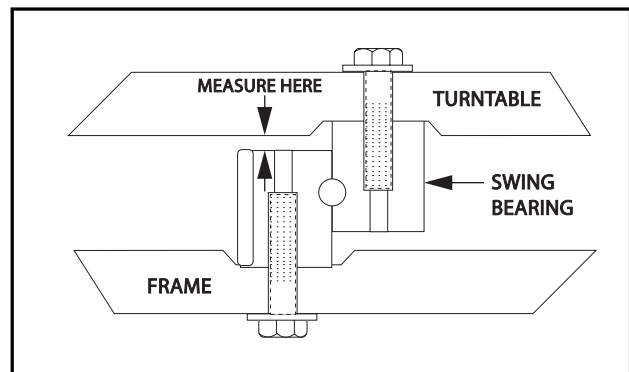
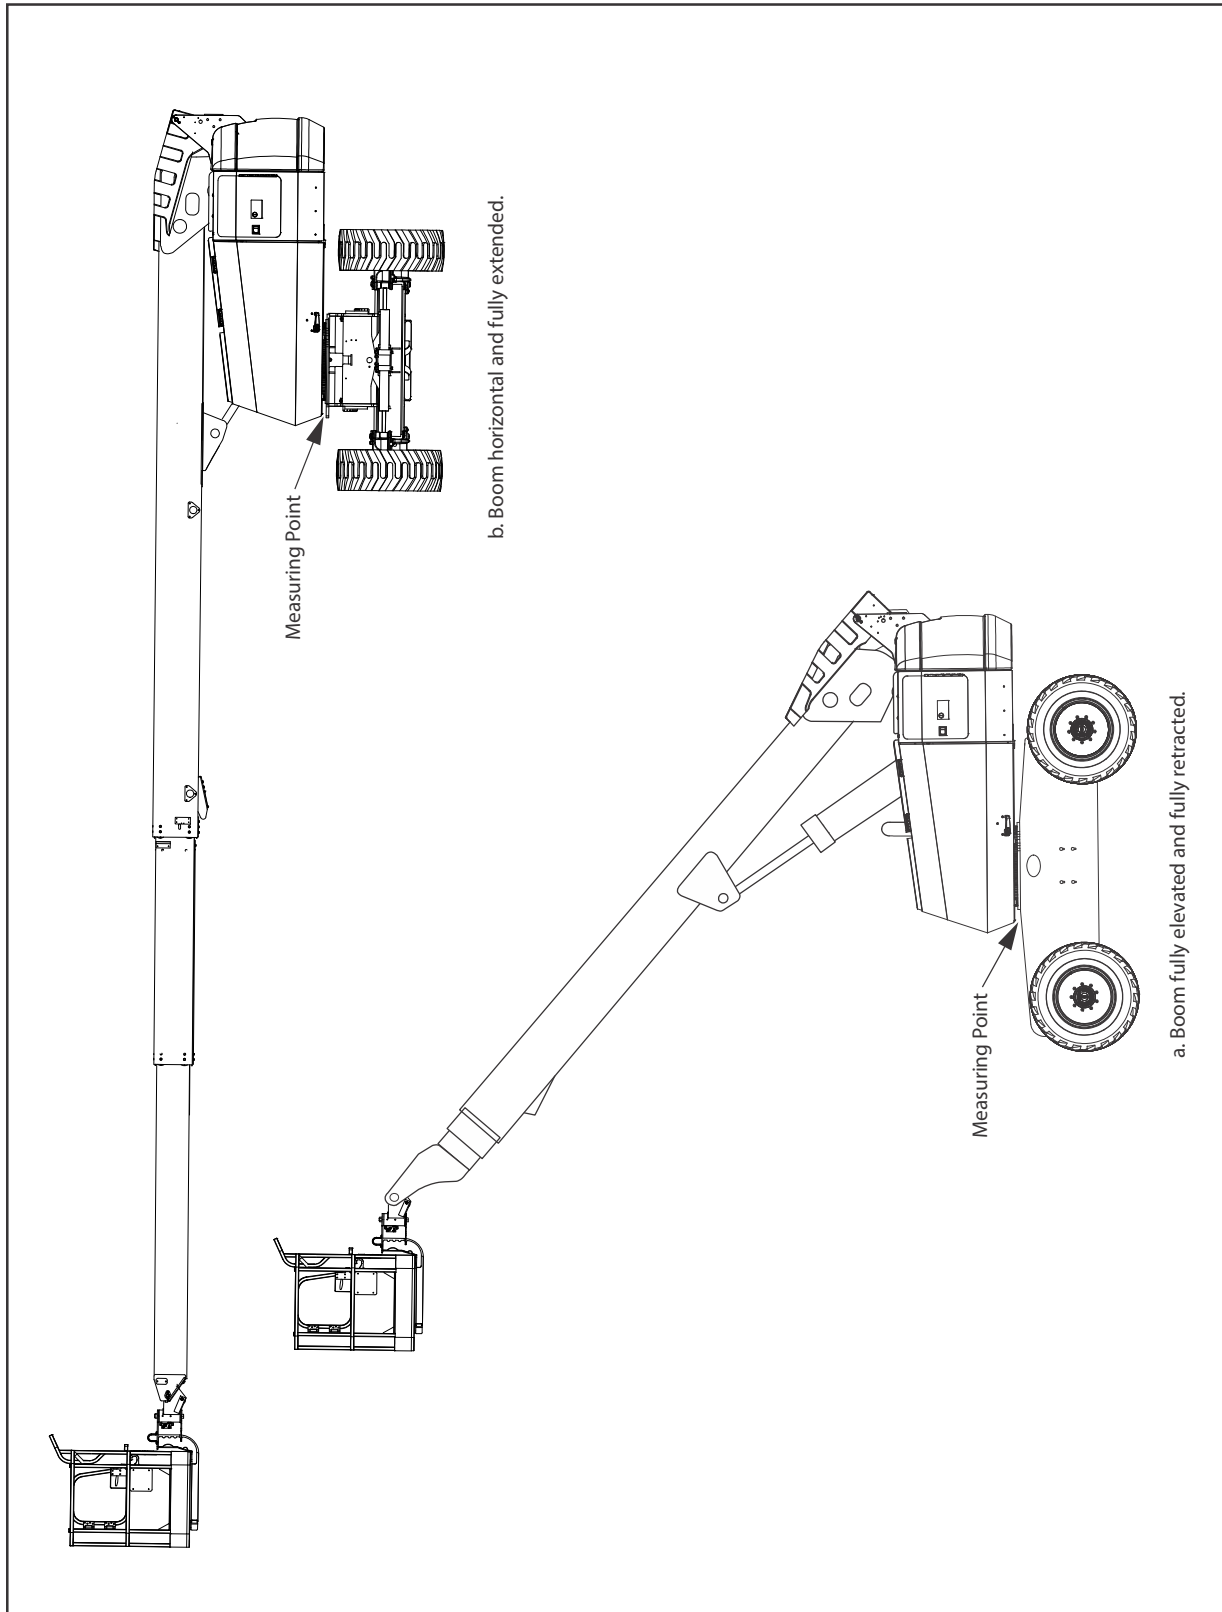

Figure 3-62. Swing Bearing Tolerance Measuring Point
Figure 3-63. Swing Bearing Tolerance Measurement Location & Boom Placement
1. From underside of machine, at rear center, with in boom fully elevated and fully retracted, as shown in Figure 3-63., Swing Bearing Tolerance Measurement Location & Boom Placement A, using a magnetic base dial indicator, measure and record distance between swing bearing and turntable as shown in Figure 3-62., Swing Bearing Tolerance Measuring Point.
2. At the same point, with boom horizontal and fully extended as shown in Figure 3-63., Swing Bearing Tolerance Measurement Location & Boom Placement B, using a magnetic base dial indicator, measure and record distance between swing bearing and turntable as shown in Figure 3-62., Swing Bearing Tolerance Measuring Point.